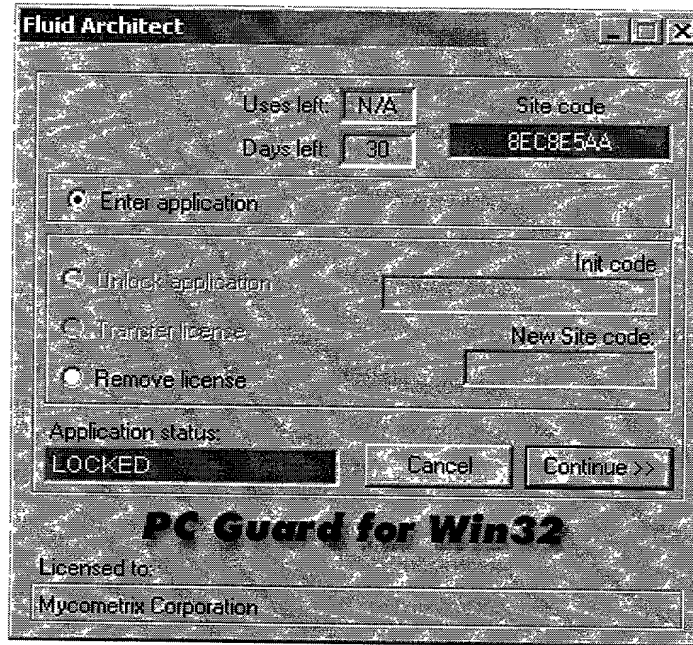

Figure 1 – License Manager
4. Figure 1 shows the dialog box will come up on the first time FluidArchitect is executed. The Site code shown in red is specific to the computer in which the FluidArchitect is being installed.
The design process for designing and building a microfluidic chip is described in Figure 1. Application specific microfluidic chips can be created using the library components provided by Fluidigm. FluidArchitect allows you to capture your design in a simple drag and drop, point and click design environment. Once the design has been completed it is sent to Fluidigm for fabrication. Fabricated devices are sent back to the microfluidic designer for use.